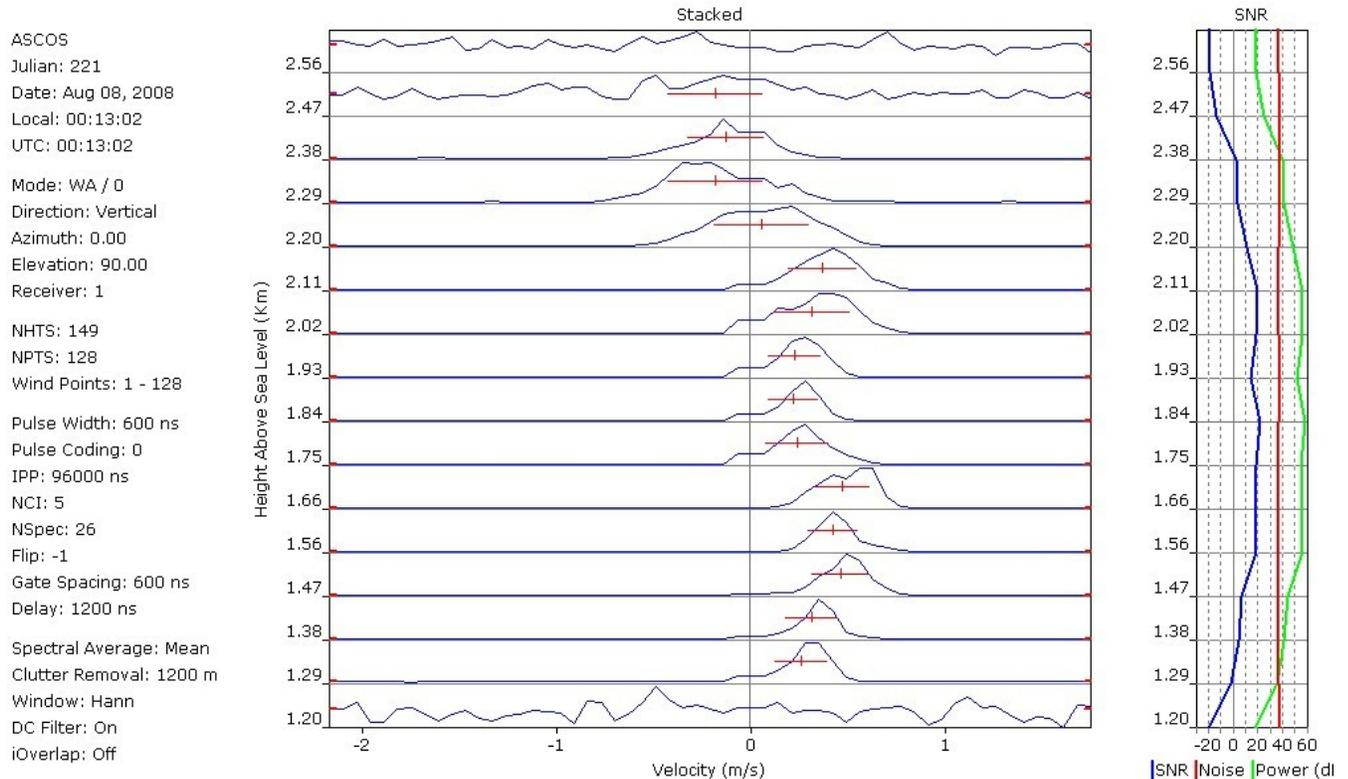
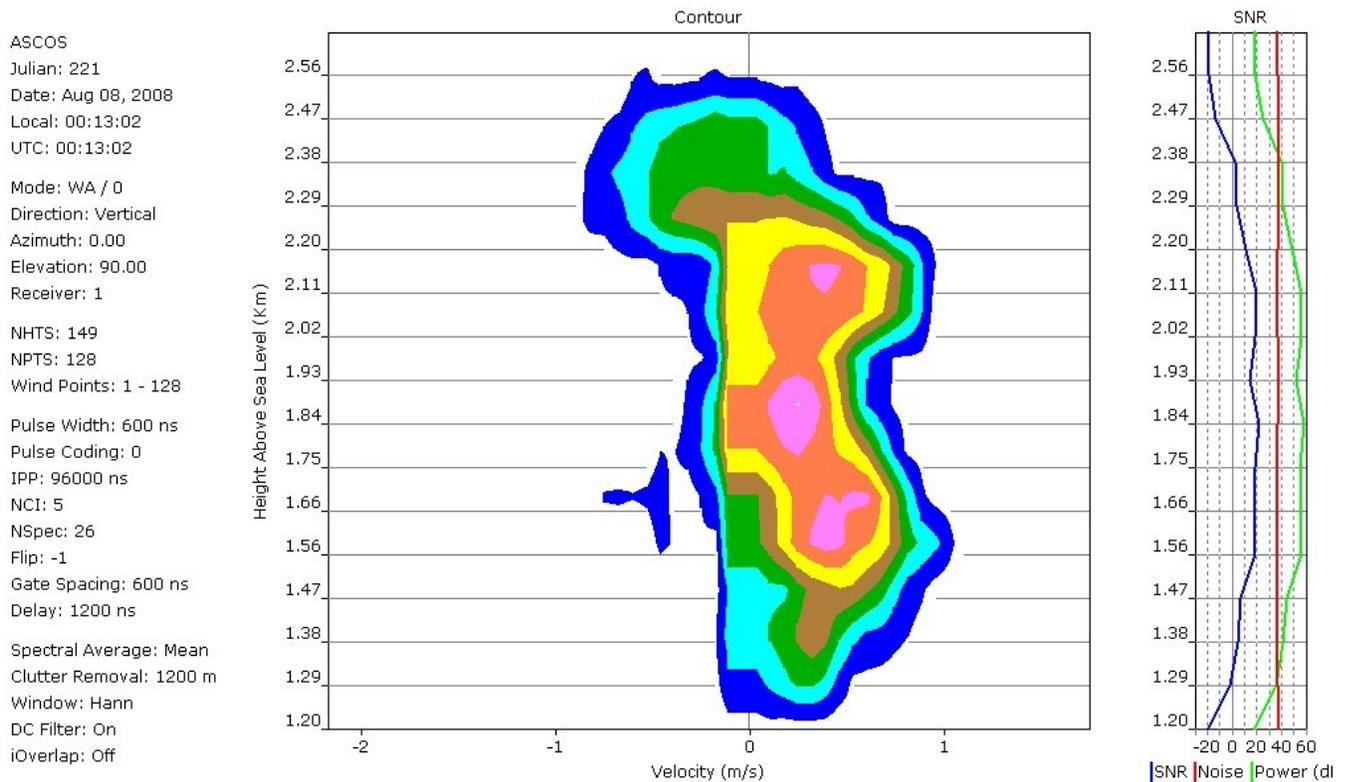

Figure 1. Stacked spectra plot from D08221a.spc. DC interpolation problem is evident.
Figure 2. Contour plot of spectra from D08221a.spc. The DC interpolation problem causes the straight edge at the left side of the contours.
3. I note that on the MMCR the DC removal algorithm has not been implemented properly. DC is also not being subtracted, and is not being interpolated correctly. It draws a straight line across zero velocity. This gives larger widths and incorrect spectra. It also adds power to the spectra, making reflectivity off a little. This is shown in Figures 1 and 2. In Figure 1, the straight line across zero has been drawn in the spectra. It is fairly clear that this is not interpolated, but drawn straight across. The DC point is not zero, as it should be with DC removal on. In Figure 2, the straight edge of the contour is an artifact. In some cases, the contour should not cross the DC point.